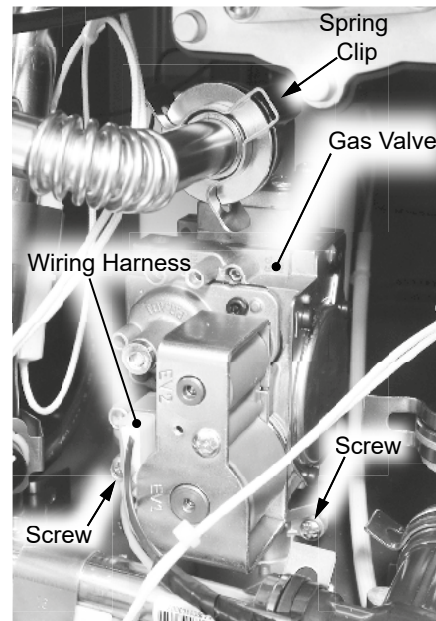

Figure 2 - Gas valve location and connections
- 7** Locate the gas valve at the bottom left side of the water heater. See Figure 2.
- 8** Remove and keep the screw securing the wiring harness to the gas valve. See Figure 2.
- 9** Locate and remove the spring clip securing the gas valve to the gas piping system. Note its orientation and place it aside for reinstallation. See Figure 2.
- 10** Remove and keep the screw at base of the gas valve. See Figure 2.